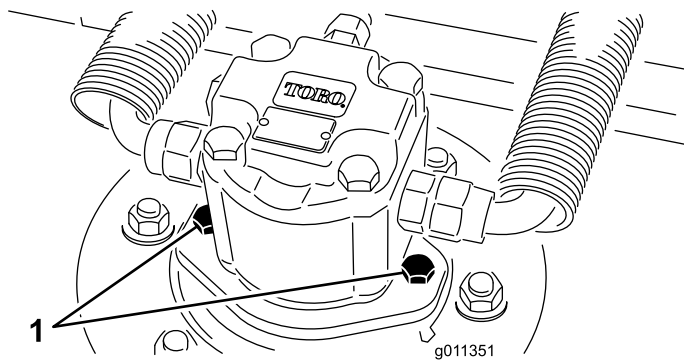

Figure 65
2. Disconnect and remove the hydraulic motor from the deck (Figure 65). Cover the top of the spindle to prevent contamination.
4. Install the hydraulic motor to the deck (Figure 65). Make sure that the O-ring is in position and not damaged.